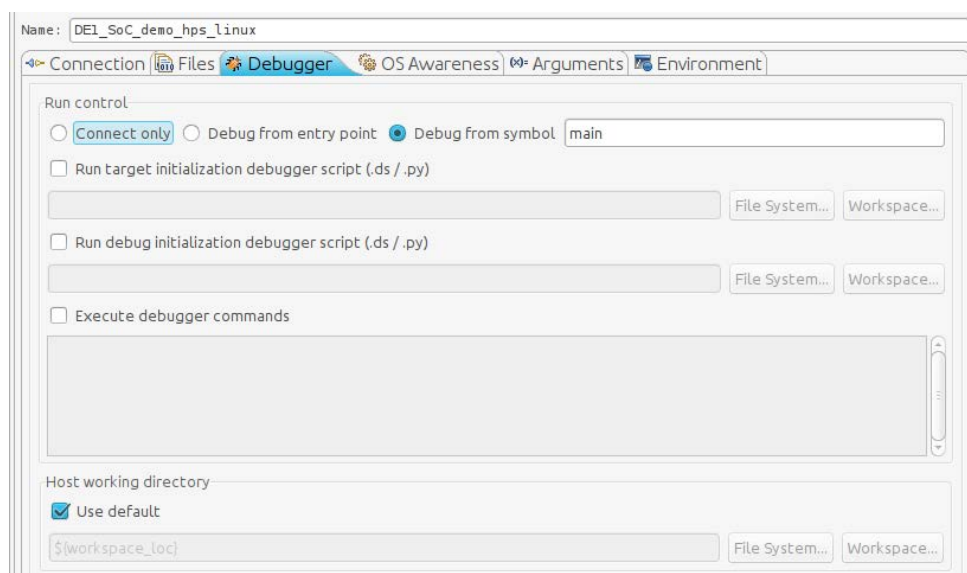

Figure 8-52. Debug Configuration "Debugger" Tab
23. Under the "Debugger" tab, make sure that "Debug from symbol" is selected and that "main" is the name of the symbol, as shown in Figure 8-52.